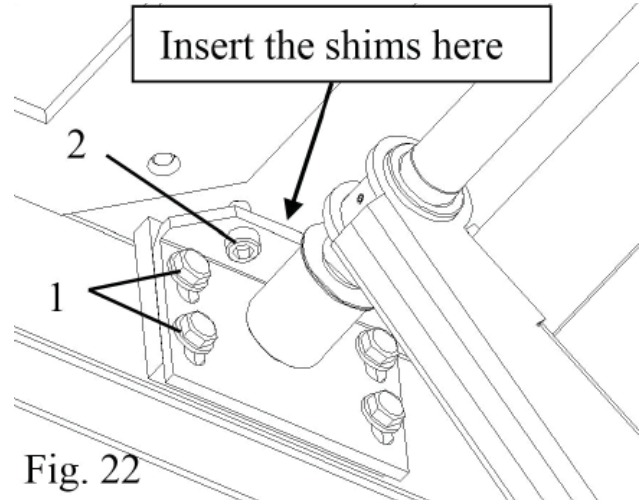

Fig. 22
- unscrew four screws (1/fig.22) on the bracket on front of scissor arm;
- Adjust two screws (2/fig.22) up or down until two platforms are leveled perfectly;
- Once the required conditions have been obtained, insert the shims on top of bracket as shown in the figure 22;
- Install the rear cross beam (ref. Fig. 22).